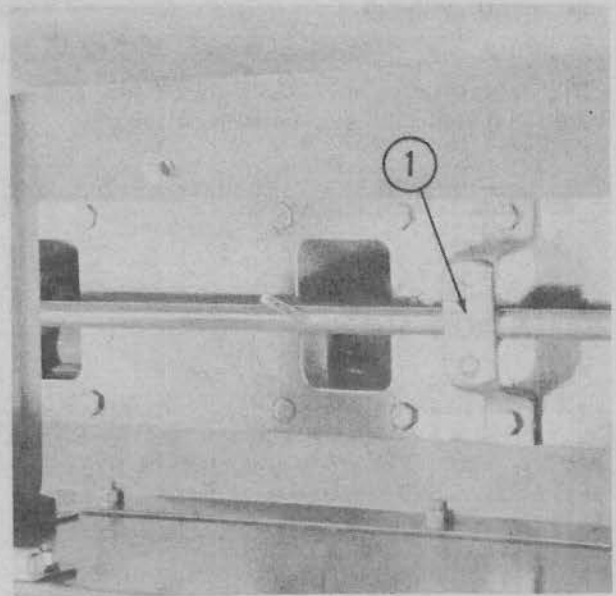

Fig. 29 - Grain Agitator Support
3. Install the two supports in the grain box, one of which is shown at No. 1, Fig. 29.